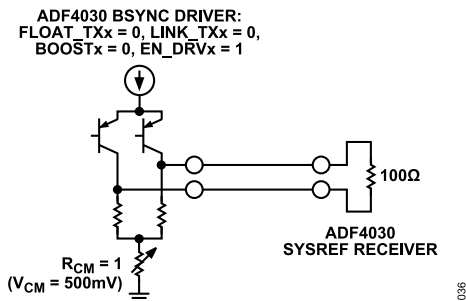
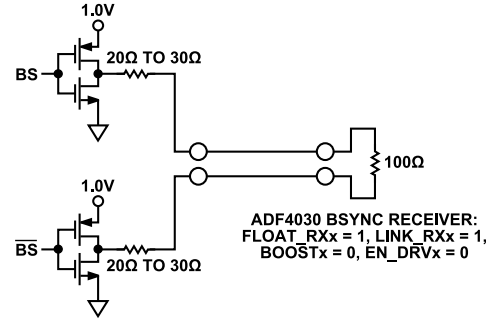

Figure 36. ADF4030 BSYNC to AD9084/AD9088 SYSREF Connection
Figure 37. AD9084/AD9088 SYSREF to ADF4030 BSYNC Connection
- ▶ The AD9084/AD9088 SYSREF pins (Figure 36 and Figure 37)